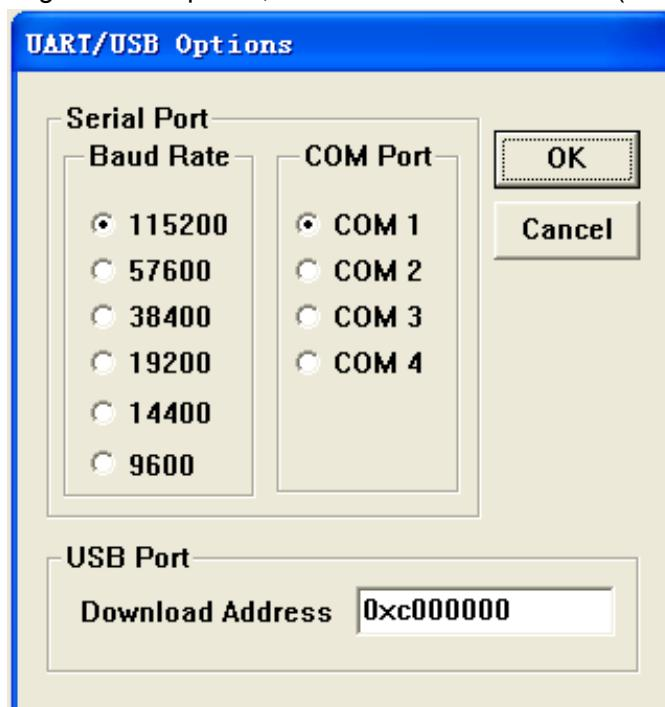

Figure13.6.2
2. Click DNW Configuration->Options, select baudrate as 115200 (see Figure 13.6.2):